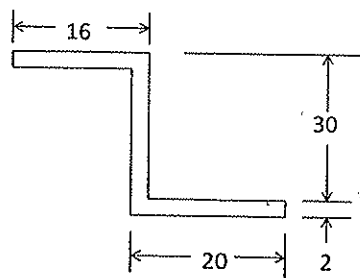

Fig.1
11.(a) Compute bending stresses at the points A,B and C of section shown in Fig.1. $M_y = 5000$ Nmm and $M_x = 0$ Nmm. All dimensions are in mm. Thickness is uniform and the moment applied about centroidal axes x and y .